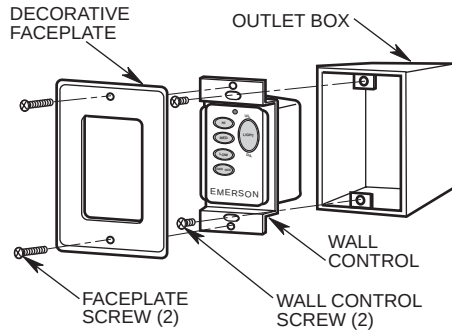

Figure 26
- 3. Install the wall control onto the outlet box using the supplied screws (Figure 26).
- 4. Install decorator faceplate (included) using the two screws provided. Leave wall control in "OFF" mode until fan installation is completed (Figure 26).